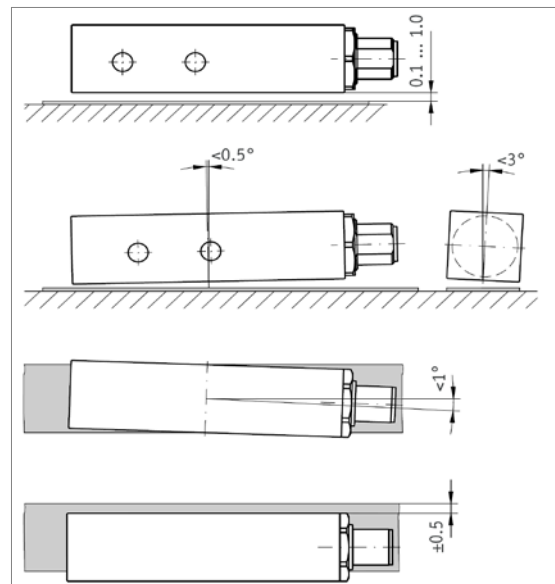

Fig. 7: Mounting tolerances
**Attention!** When mounting sensor and magnetic strip please observe that both components are correctly aligned and that the mounting tolerances are respected (see fig. 7).
The sensor's position relative to the magnetic strip is exactly defined. The correct gap between sensor and magnetic strip must be maintained over the total travel distance, irrespective whether the strip or sensor moves (fig. 7).
Within the defined limits (fig. 7), errors due to deviation are less important than errors resulting from strip and sensor tolerances.
- Tolerance for the gap between magnetic sensor and magnetic strip not observed over the total travel distance. Sensor touches strip (see fig. 7).
- Sensor's active side not mounted towards the magnetic strip (see fig. 7).